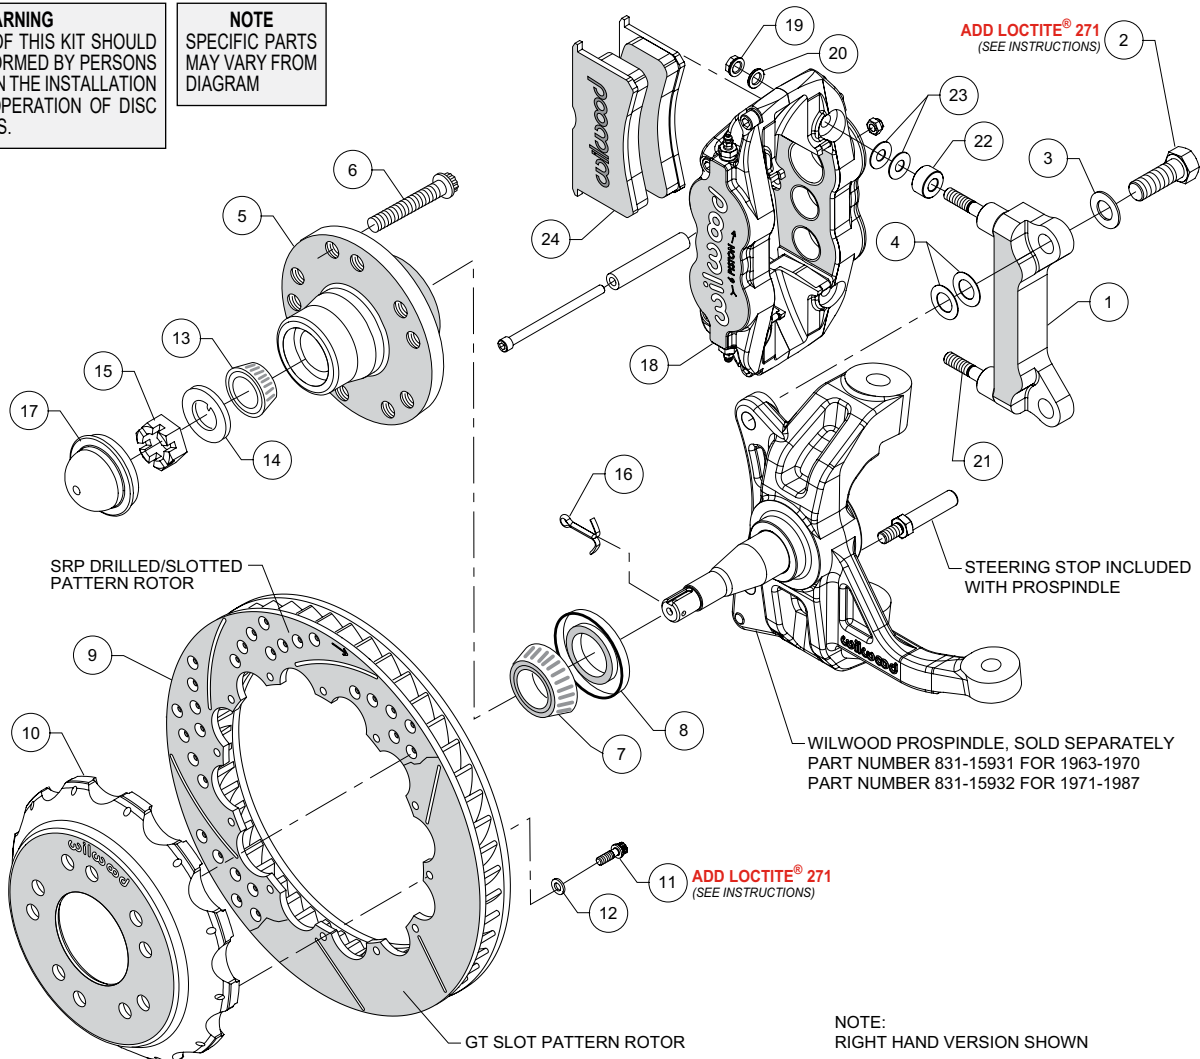
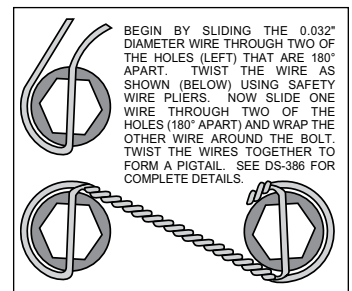

Figure 1. Typical Installation Configuration
Figure 3. Safety Wire Diagram
NOTE: Numbers in parenthesis refer to the parts list and Figure 1 on the preceding pages.
- Install the steering stop bolt (included with the ProSpindle) into the spindle as shown in Figure 1 and Photo 1. Torque to 25 ft-lbs.
- The caliper mount bracket (1) should initially be installed with clean, dry threads on the mounting bolts. Orient the bracket, as shown in Figure 1 and Photo 2, and install using bolts (2) and washers (3). Initially place two .024" thick shim (4) on each bolt between the bracket and spindle, Figure 1. Temporarily tighten the mounting bolts. **NOTE:** *The bracket must fit squarely against the mount bosses on the spindle.* Inspect for interference from casting irregularities, machining ridges, burrs, etc. Later, after the caliper alignment has been checked, the mount bolts will be secured using red *Loctite*® 271.
- Pack the small outer bearing cone (13) with high temperature disc brake bearing grease and install into hub (5). Slide the hub assembly onto the spindle. Secure using spindle washer (14) and spindle nut (15), Photo 6. Adjust bearings per OEM specifications. Install a new cotter pin (16).
- Press the dust cap (17) into the hub (5). **NOTE:** *Do not hammer center of cap. Install using outer flange only.*
- Orient the rotor (9) and the hat (10) as shown in Figure 1 and Photo 7. Attach rotor to hat using bolts (11) and washers (12). Apply red *Loctite*® 271 to the bolt threads and torque to 155 **in-lb** using a criss-cross pattern. For an added measure of security, the bolts may be safety wired using standard 0.032 inch diameter stainless steel safety wire as shown in Figure 3. Refer to Wilwood's data sheet DS-386 (available at www.wilwood.com/Pdf/DataSheets/ds386.pdf) for complete safety wire installation instructions.
in Figure 1 and Photo 9. Mount the caliper (18) onto the bracket (1) using lock nuts (19) and washers (20), Figure 1. Temporarily tighten the lock nuts. Ensure that the caliper is mounted so that the largest pistons are at the rotor exit end of the caliper, in relation to the direction of rotor rotation. View the rotor through the top opening of the caliper. The rotor should be centered in the caliper, Photo 10. If not, adjust by adding or subtracting shims (4) between the bracket and the spindle. Always use the same amount of shims on each of the two mounting bolts. Once the caliper alignment is correct, remove the bracket mounting bolts one at a time, apply red *Loctite*® 271 to the threads, and torque to 140 ft-lb.